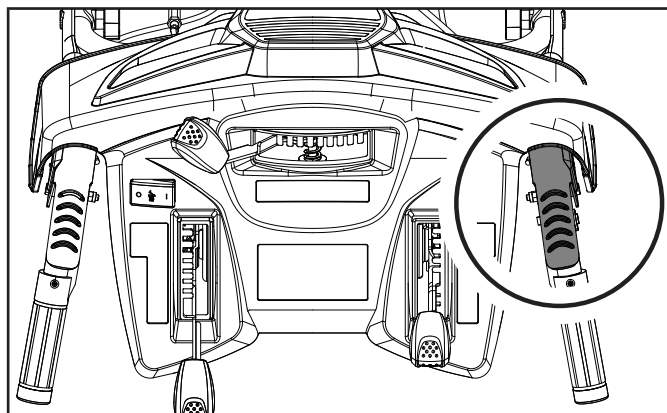

Figure 15
1. Located on the right side (from behind the snowblower). Pushing this lever towards the handle causes the auger and impeller to activate. Releasing the auger control lever causes the auger to stop moving (Fig. 15).